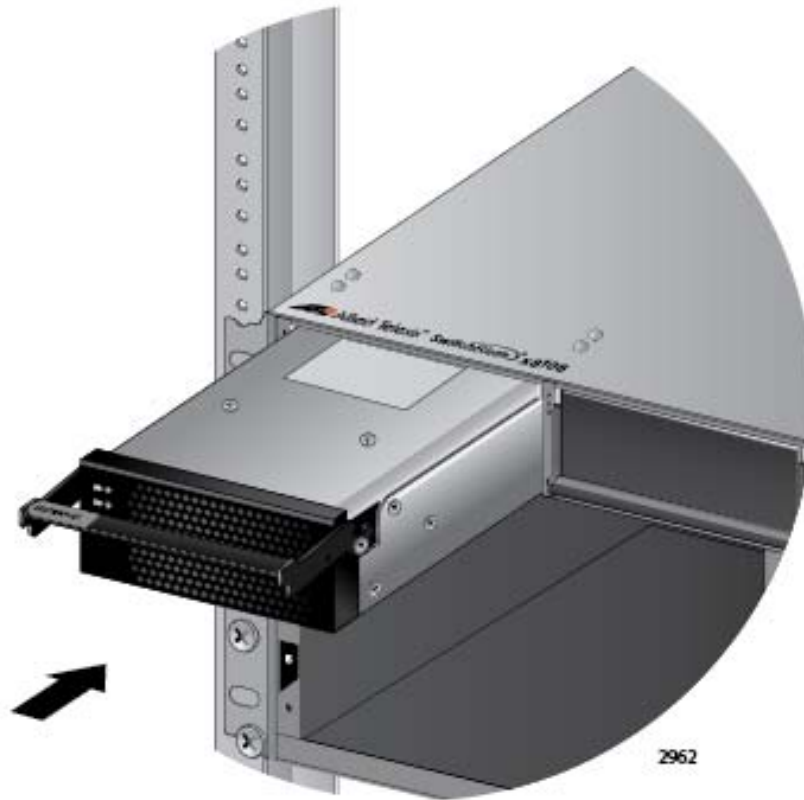

Figure 60. Inserting the AT-SBxPWRPOE1 Power Supply
5. Align and insert the AT-SBxPWRPOE1 Module into slot A or B. Figure 60 shows the power supply module aligned in slot A.